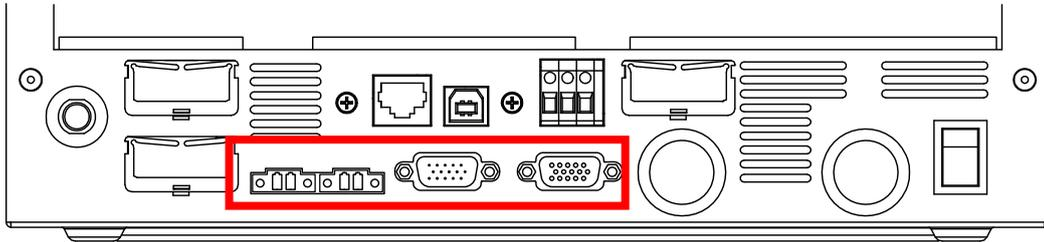

Figure 7: Bottom view of inverter with installed parallel card
10. Fasten the parallel board where the beige board was originally installed using the two screws and washers from step 4. When finished, the parallel board will sit in the same place as the beige board was before removal, connected to the same connectors and fastened with the same screws. The connectors of the parallel card must match the cut-outs of the metal casing of the inverter as shown in *Fig. 7*.
12. Screw the communication board back into the inverter, the reverse of step 3. Use the screws removed in step 3. The bottom of the inverter should now have the appearance of *Fig. 7*.